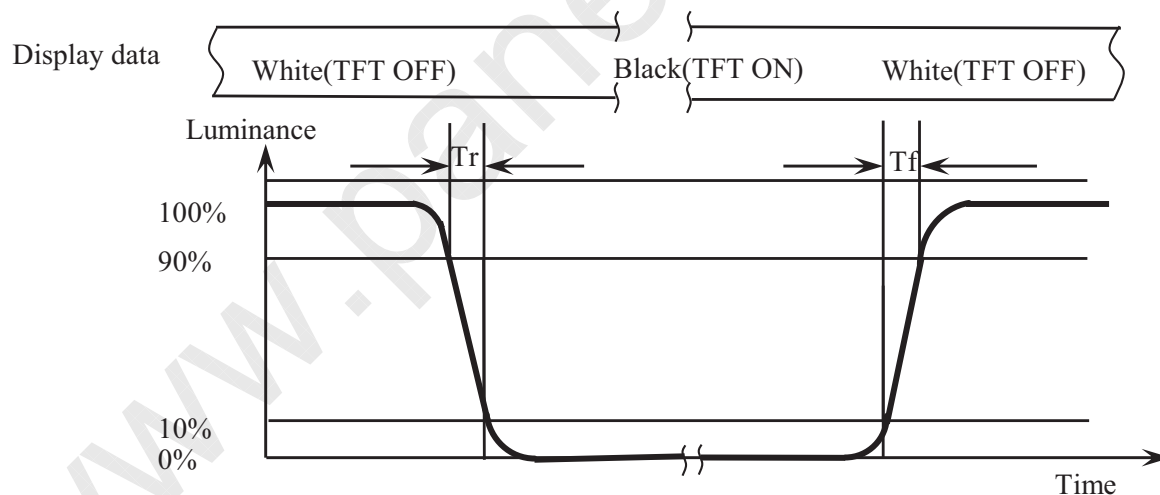

Figure 10. Response Time Testing
6. The electro-optical response time measurements shall be made as Figure 10 by switching the “data” input signal ON and OFF. The times needed for the luminance to change from 10% to 90% is T_f , and 90% to 10% is T_r .
The electro-optical response time measurements shall be made as shown in Figure 10 by switching the “data” input signal ON and OFF. Tr: The luminance to change from 90% to 10% ,Tf: The luminance to change from 10% to 90% .